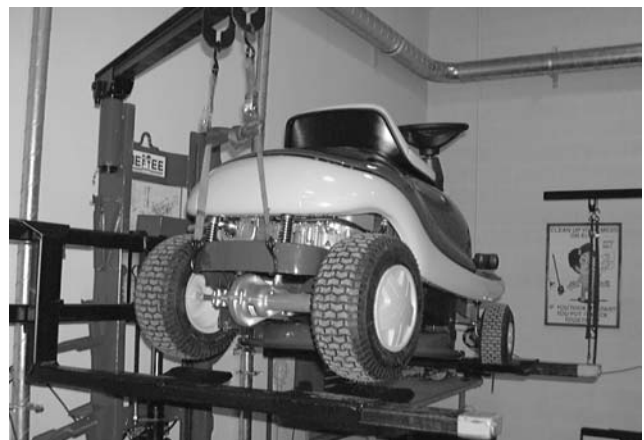

Figure 8-48.
3. Raise the rear wheels off the ground. See Figure 8-48.